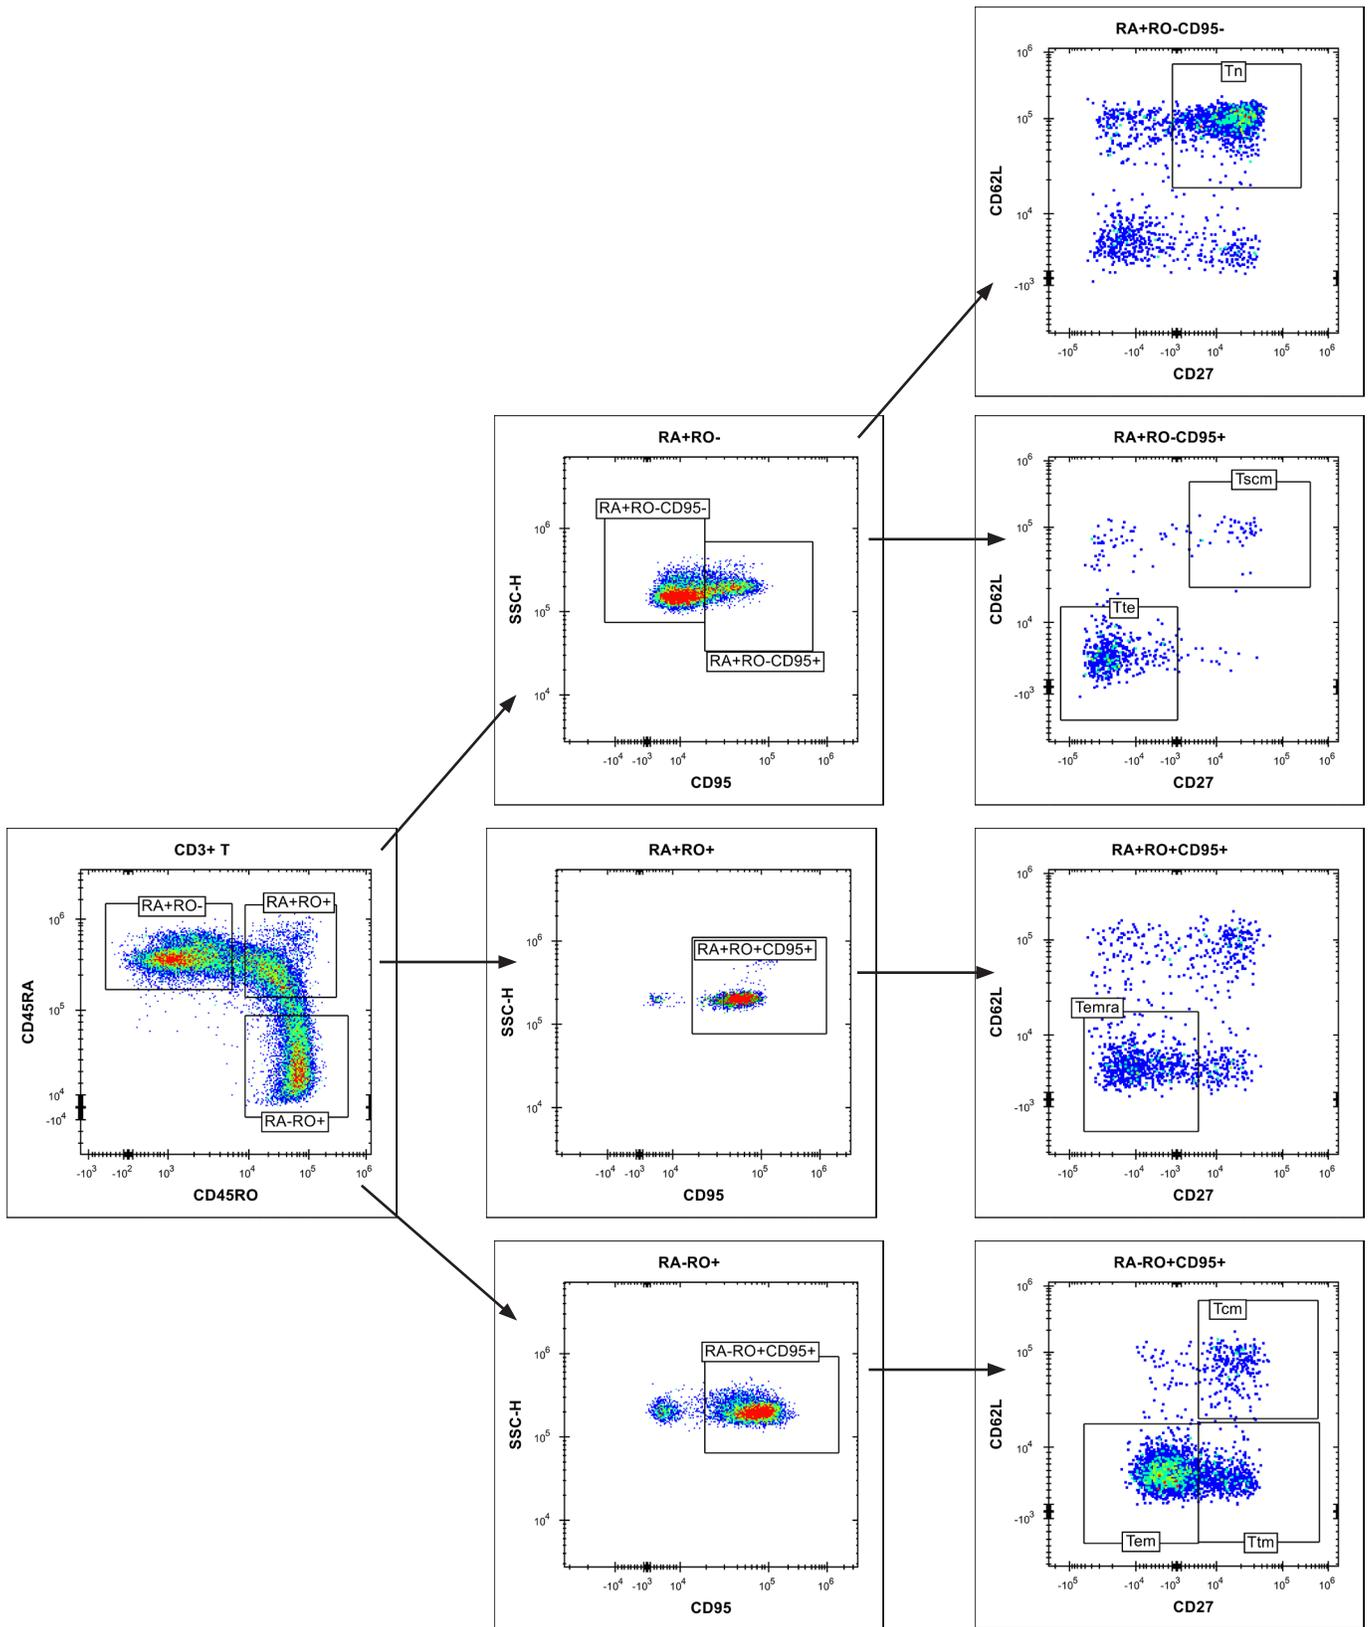

Figure 8. Gate Different Cell Phenotypes: Naïve | Memory | Effector
- 13.3.1 CD3+ cells → RA+ RO- → RA+ RO+ → RA- RO+ cells (See **Figure 8**).